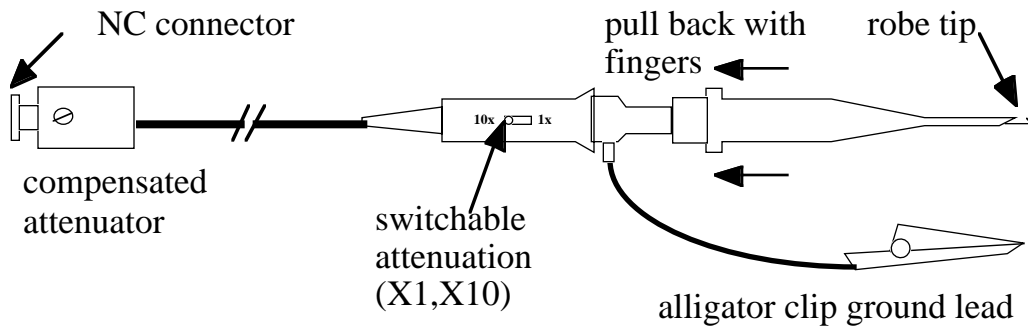
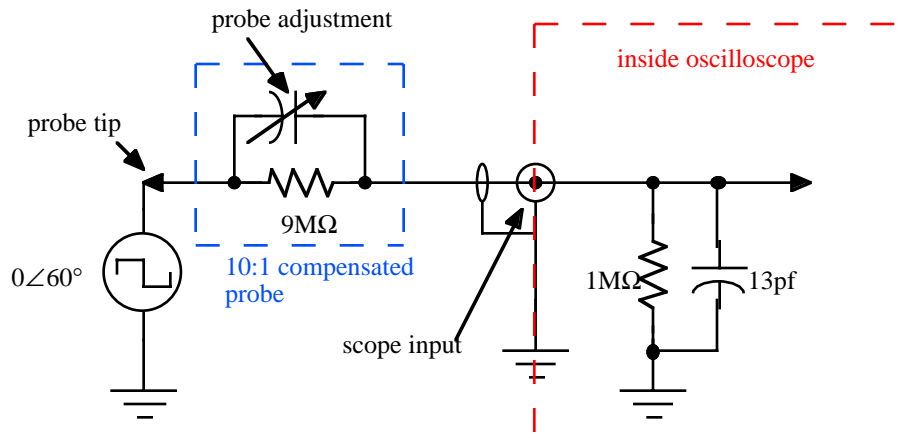
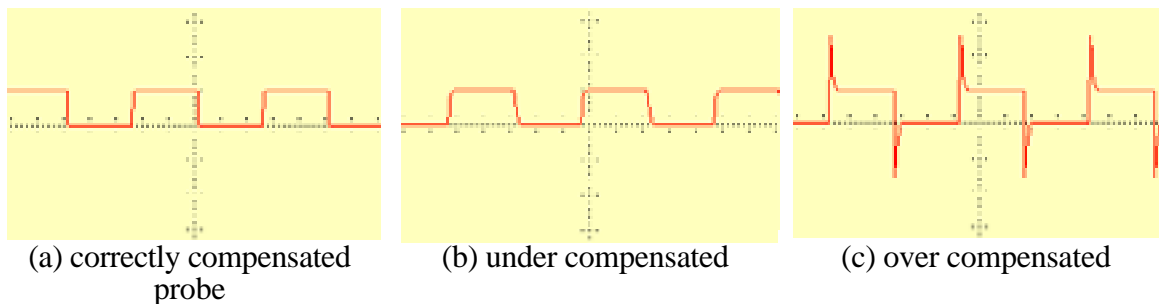

Figure 6. A typical oscilloscope probe
Figure 7. A 10:1 divider network of a typical probe.
Figure 8. The effects of probe compensation.
Figure 6 shows a typical probe. An oscilloscope probe is a high quality connector cable that has been carefully designed not to pick up stray signals originating from radio frequency (RF) or power lines. They are especially useful when working with low voltage signals or high frequency signals which are susceptible to noise pick up. An oscilloscope probe has a large internal input resistance which reduces the circuit loading. A probe usually attenuates the signal by a factor of 10 although some probes have switchable attenuators, typically X1 and X10, as shown in Figure 6. The probe often has a small box connected to it's cable connector which contains the electronic components of the scope probe (see Figure 7). Compensated probes will have a small screwdriver adjustment in this box; some older probes will have this adjustment actually in the probe. The advantage of using a 10:1 attenuator is that it reduces circuit loading. By adding a resistance of 9MegOhm the input resistance seen by the circuit under test increases from 1 MegOhm to 10 MegOhm. As a result, the current that needs to be supplied by the circuit will be 10 times smaller and reduces the circuit loading by a factor of 10. Since very few circuits have resistance in them which are this large any current going through the scope probe is negligible compared to the other circuit components.
Figure 7 shows a component which we have not used in the course so far, a capacitor. An important feature of an oscilloscope probe is the variable capacitor placed across the 9MegOhm resistor. This variable capacitor can be adjusted to ensure that high frequency waveforms are not distorted. The effect of adjusting this capacitor is illustrated in Figure 8 which shows the effect of the adjustment on the oscilloscope display of a square wave signal. When the probe is properly adjusted a square wave will be displayed with a flat top as shown in Figure 8(a). However, a poorly adjusted probe can give considerable distortion and erroneous readings of the peak-to-peak amplitude of the signal as shown in Figure 8(b) and Figure 8(c). Proper probe adjustment is so important that most oscilloscopes have built in means to adjust the scope compensation as you will see in this lab. You should get into the habit of checking the probe compensation with a square wave every time you use it. Note that not all square waves will produce the waveforms seen in Figure 8(b) and Figure 8(c); only square waves which have VERY vertical edges will produce these signal distortions.